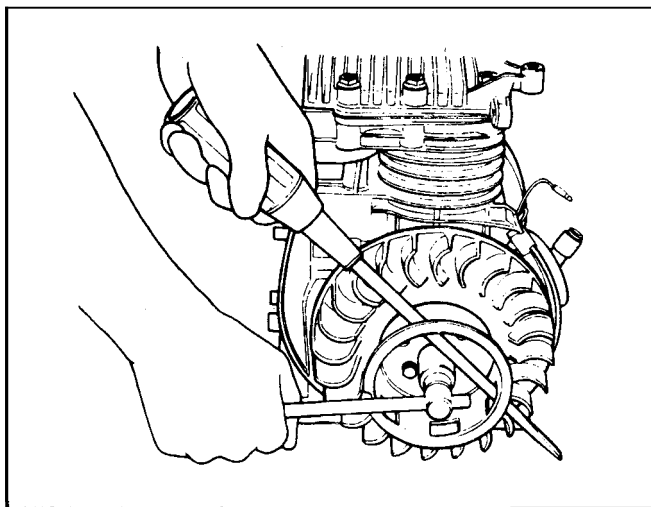

Figure 38
7. Remove the flywheel nut and the three screws retaining the starter cup. See Figure 38.